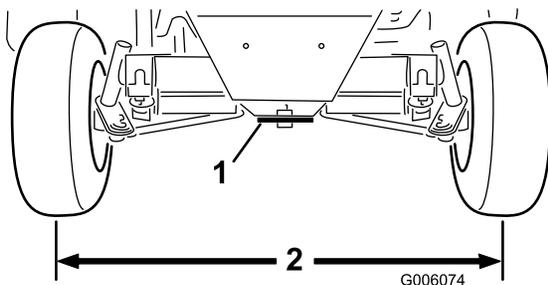

Figure 58
2. Loosen the jam nuts on both tie rods. Adjust both tie rods until center-to-center distance at front and back of rear wheels is the same (Figure 58).